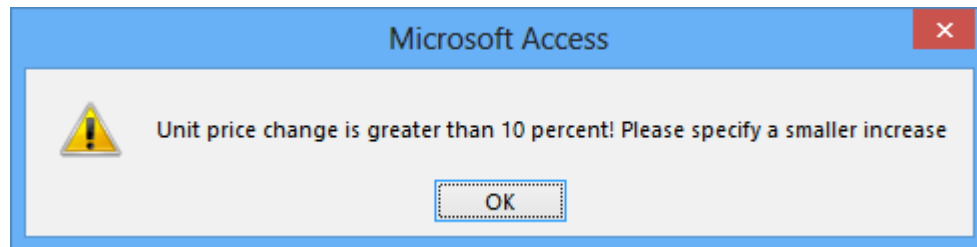

Figure 52: Error Message *Before Change* Macro Violation
7. Test the *Before Change* Macro: Switch to datasheet view and increase the *UnitPrice* column value in a row by more than 10 percent. You should see an error message shown in Figure 52. If you want to modify the macro, you should switch to design view and select **Design → Create Data Macros → Before Change**.